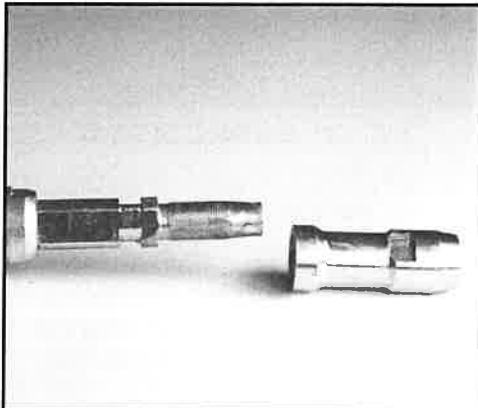

FIG. 43: REMOVE CONTROL STUD ADAPTER
6. Apply heat to liquefy loctite holding the control stud adapter and remove (see Fig. 43).